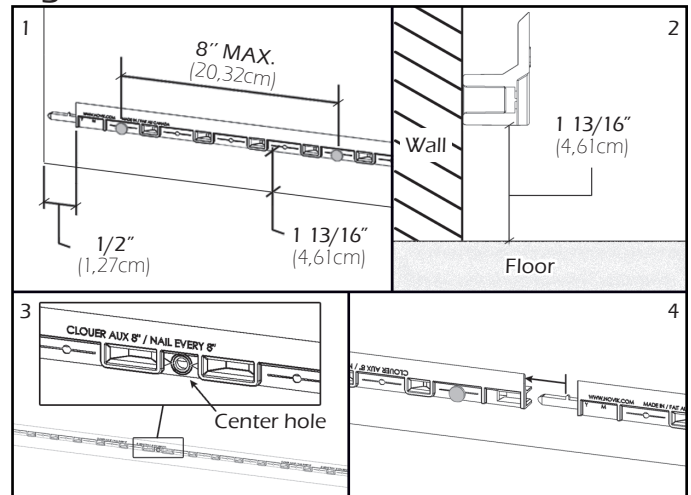

Figure A.1
- Pro Series Universal Starter Strip (Figure A.1):